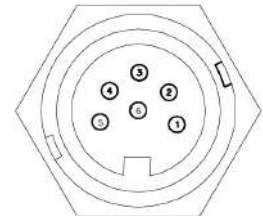

Figure 4
3. See figure 4 and 5 for second loop connections.